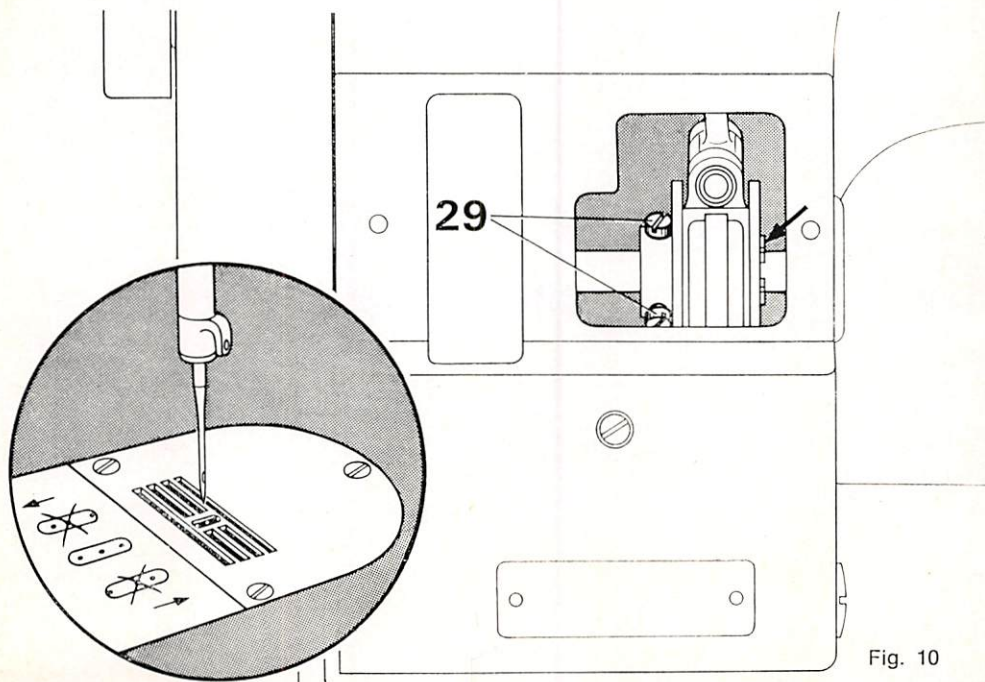

Fig. 10
7. Adjusting the Needle Throw in Relation to the Central Needle Puncture (Fig. 10)
- 7.9 After you have completed the adjustment, tighten screws **29** and push the circlip (see arrow in Fig. 10) up against the eccentric.